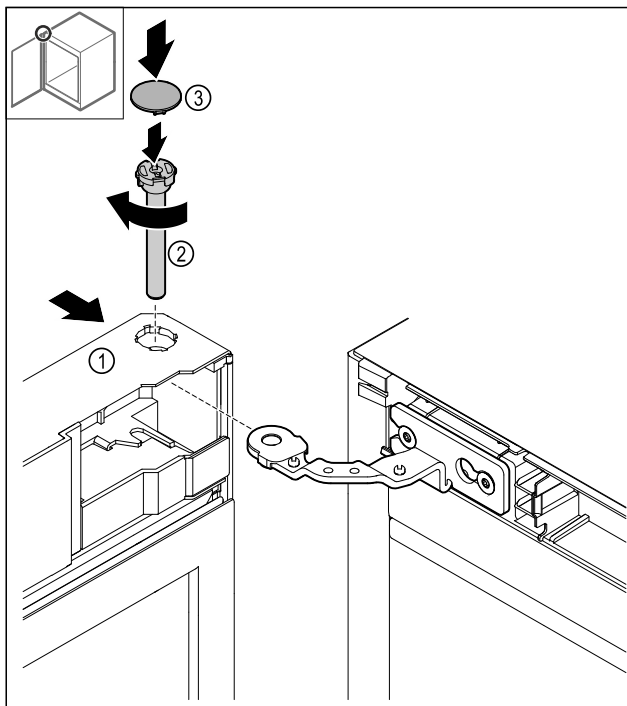

Fig. 48
- Slide the door Fig. 48 (1) onto the top hinge.
- Insert the bolt Fig. 48 (2) and turn it clockwise to tighten.
- Put on the cover Fig. 48 (4).